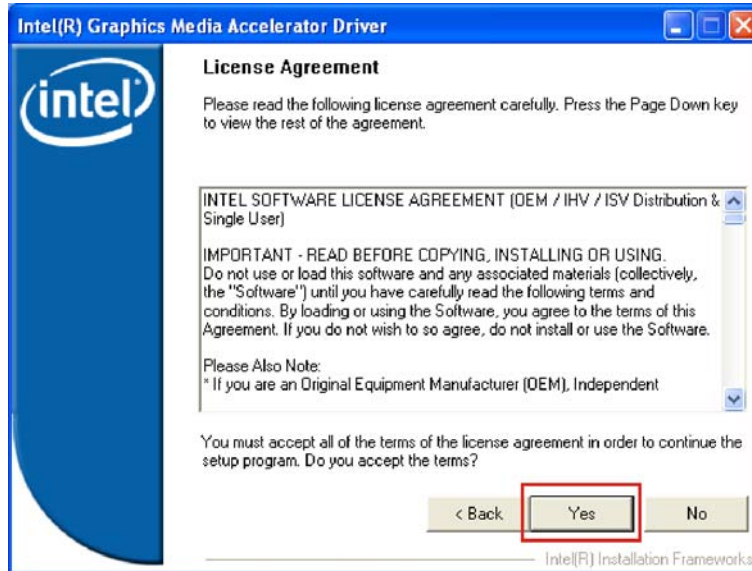

Figure 7-14: VGA Driver License Agreement
Step 10: The license agreement in Figure 7-14 appears.